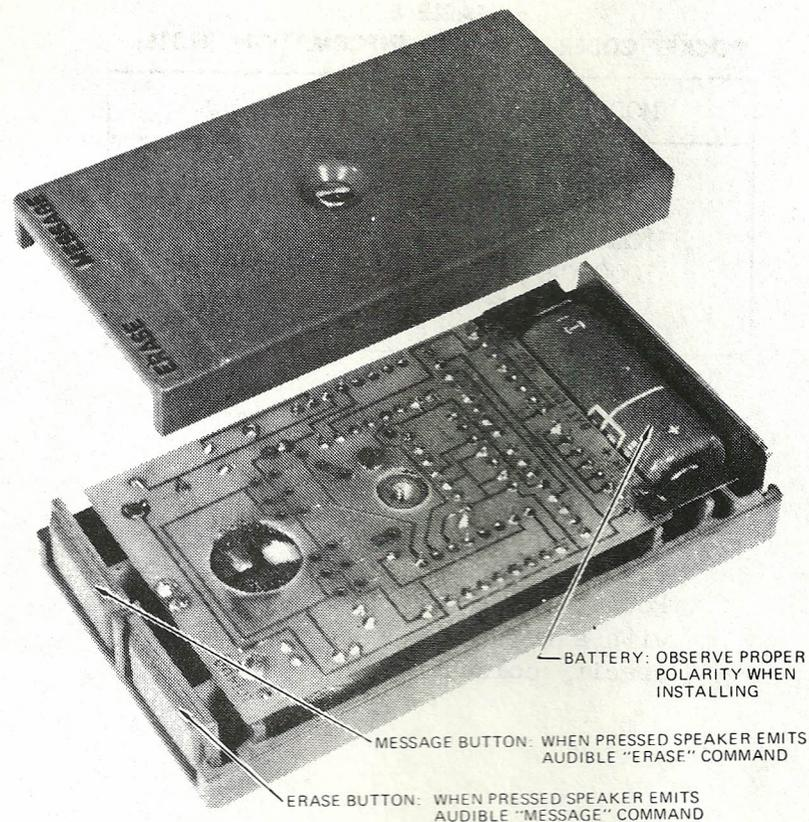

Fig. 7—Pocket Code, Model 1000
**5.01** The Remote AutoMatic TelePhone incorporates all of the standard features of The AutoMatic TelePhone. In addition, The Remote AutoMatic TelePhone allows a distant caller to receiver recorded messages over a telephone line. The caller activates The Remote AutoMatic TelePhone with two specially coded commands ("message" and "erase") from a hand-held transmitter, the Model 1000 PC Pocket Coder (Fig. 7). After receiving the recorded messages over the telephone line, the caller may either erase the messages or leave them intact and record new messages.
**6.01** To check the operation of the Pocket Coder, press the MESSAGE and ERASE buttons (see Fig. 7) and verify that both cause a command tone to be audible at the speaker. The Pocket Coder is powered by a 15-volt battery (Eveready No. 504 or equivalent). Normal battery life is one year and replacement is the customers responsibility.